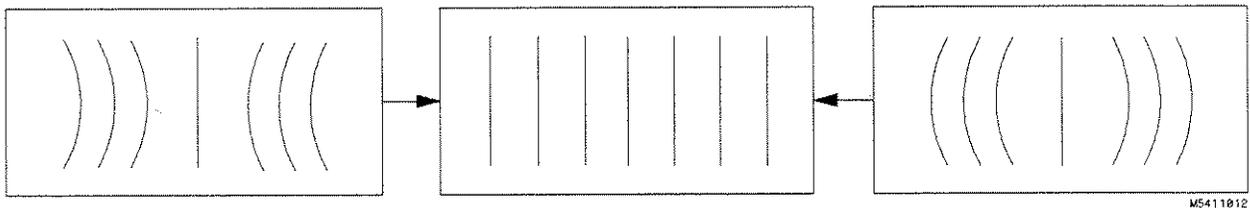

Figure 4-2. PIN AMP Adjustment
7. Adjust **PIN AMP (RV506)** on left hand side PC board to eliminate pincushion distortion in the vertical lines of the cross-hatch pattern. Refer to figure 4-2.